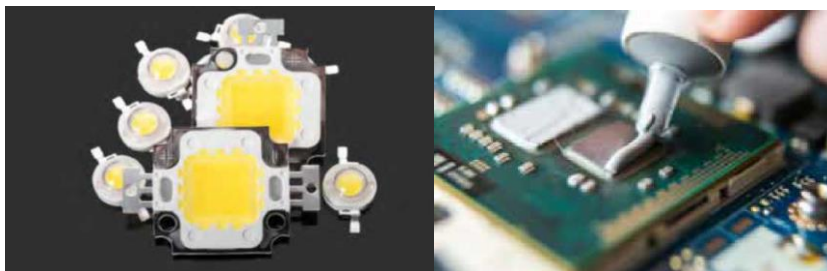

Fig. 2.16: Apply the thermal paste on the back side of the COB
3. Apply thermal paste on the back side of the COB module. Spread the thermal paste homogeneously as shown in Figure 2.16.